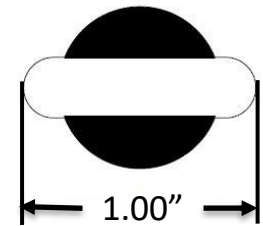

Figure 3
- 3. Lower Carbon Canister** - Lower the carbon canister from driver side frame by removing the rearmost (1) M8 bolt using a 10mm socket and allowing the canister to hang. NOTE: If present remove frame rail plug, to access rear mounting point on the driver side.
- 4. Enlarge attachment holes** - Using die grinder, enlarge the forward most attachment hole of driver and passenger side frame rails to insert carriage block and bolt. see Figure 3.
1. Lower Muffler - Using exhaust removal pliers, remove the (2) rearmost rubber exhaust hangers. Spraying a lubricant will help the removal process. Note: Be sure the exhaust is supported before removing from rubber hangers to prevent damage.
2. Remove Heat Shield - Remove (4) metal fasteners that hold the heat shield in place with 15/16" socket. Take the heat shield off and trim the area marked in Figure 3.
3. Lower Carbon Canister - Lower the carbon canister from driver side frame by removing the rearmost (1) M8 bolt using a 10mm socket and allowing the canister to hang. NOTE: If present remove frame rail plug, to access rear mounting point on the driver side.
4. Enlarge attachment holes - Using die grinder, enlarge the forward attachment hole of driver and passenger side frame rails to insert carriage block and bolt. see Figure 3.